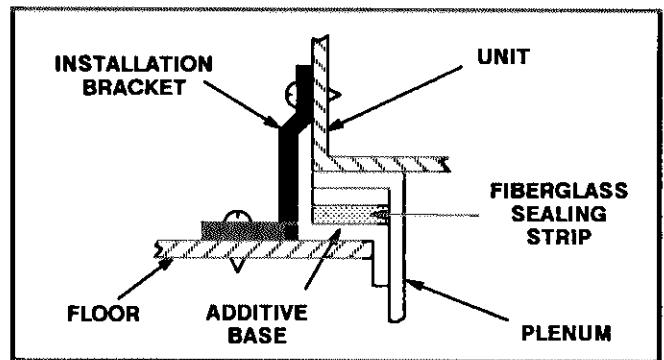

FIGURE 8
- 6- Secure unit to floor with four installation brackets provided. See figure 8. Use existing screws located at the bottom of unit to secure brackets to the unit and use screws provided with kit to secure bracket to floor.